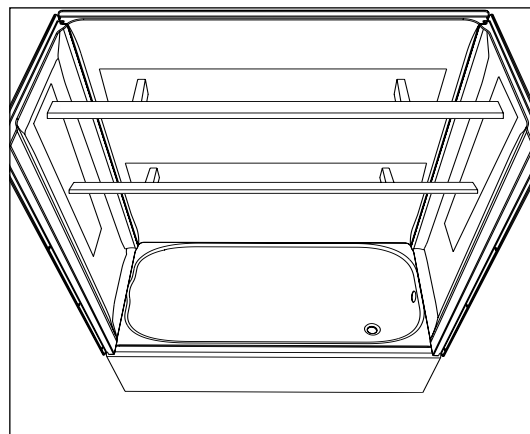

FIGURE 9. Apply pressure by cross bracing left and right panels while also applying pressure to the back panel.
- k. Panels must be held tight to studs during drying process. Apply pressure to panels while adhesive dries with cross bracing. (Fig. 9)